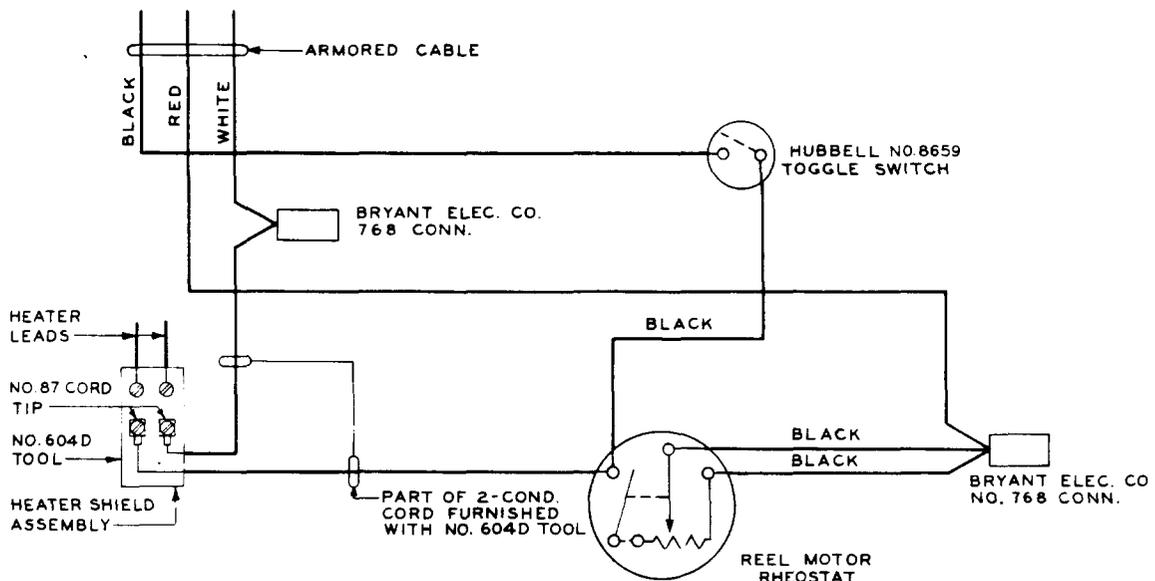
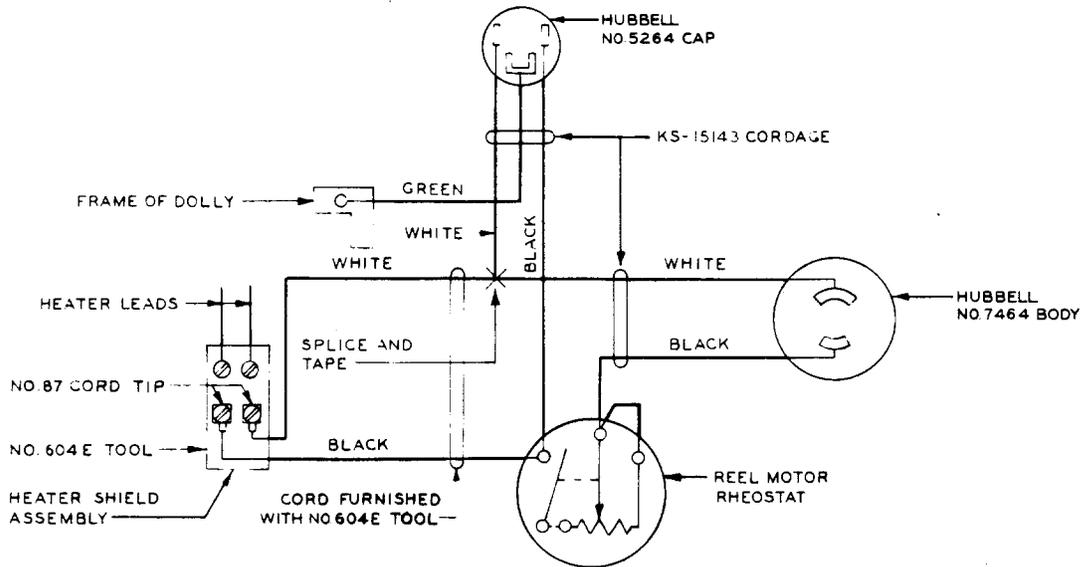
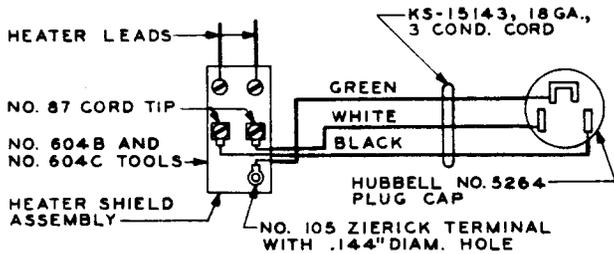

Fig. 8--Wiring Diagram--604D Splicer
Fig. 9—Wiring Diagram—604E Splicer
Fig. 10—Wiring Diagram—604B and C Splicers With 3-Conductor Cord
3.07 Cord: Remove the cord cleat on the back of the base by removing the cord cleat mounting screws with the 3-inch **◆C◆** screwdriver. Bring the heater down on the anvil, and remove the cord cleat and terminal insulator mounting screws using the 3-inch **◆C◆** screwdriver. Remove the cord cleat and terminal insulator. Loosen the cord terminal screws using the 3-inch **◆C◆** screwdriver, and remove the cord. Remove the outer covering on both ends of the new cord for a distance of 2 1/2 inches, exposing the rubber-covered leads. Remove the insulation from the ends of these leads for 3/16 inch. Where the 2-conductor cord is to be used with the 604A, B, or C splicer, solder an 87 cord tip to one end of each lead and attach a Hubbell 5964 plug cap to the other end of the cord. A 2-conductor cord is used on the 604D and E splicers. Solder an 87 cord tip to one end of each lead, and connect the other end of each lead as shown in Fig. 8 for the 604D splicer and Fig. 9 for the 604E splicer. Where the 3-conductor cord is to be used with the 604B or C splicer, solder 87 cord tips to one end of the black and white leads and a Zierick 105 terminal with a 0.144-inch diameter hole to this end of the green lead. Attach a Hubbell 5264 plug cap to the other end of the leads as shown in Fig. 10. Connect the cord to the splicer, clamping the cord tips firmly under the terminal screws. Place the cleat on the cord and the terminal insulator under the cord. Insert the cleat mounting screws. Arrange the leads neatly in place, and position the cord so that its outer covering projects 1/8 to 1/4 inch beyond the inner side of the cleat. Tighten the screws securely.